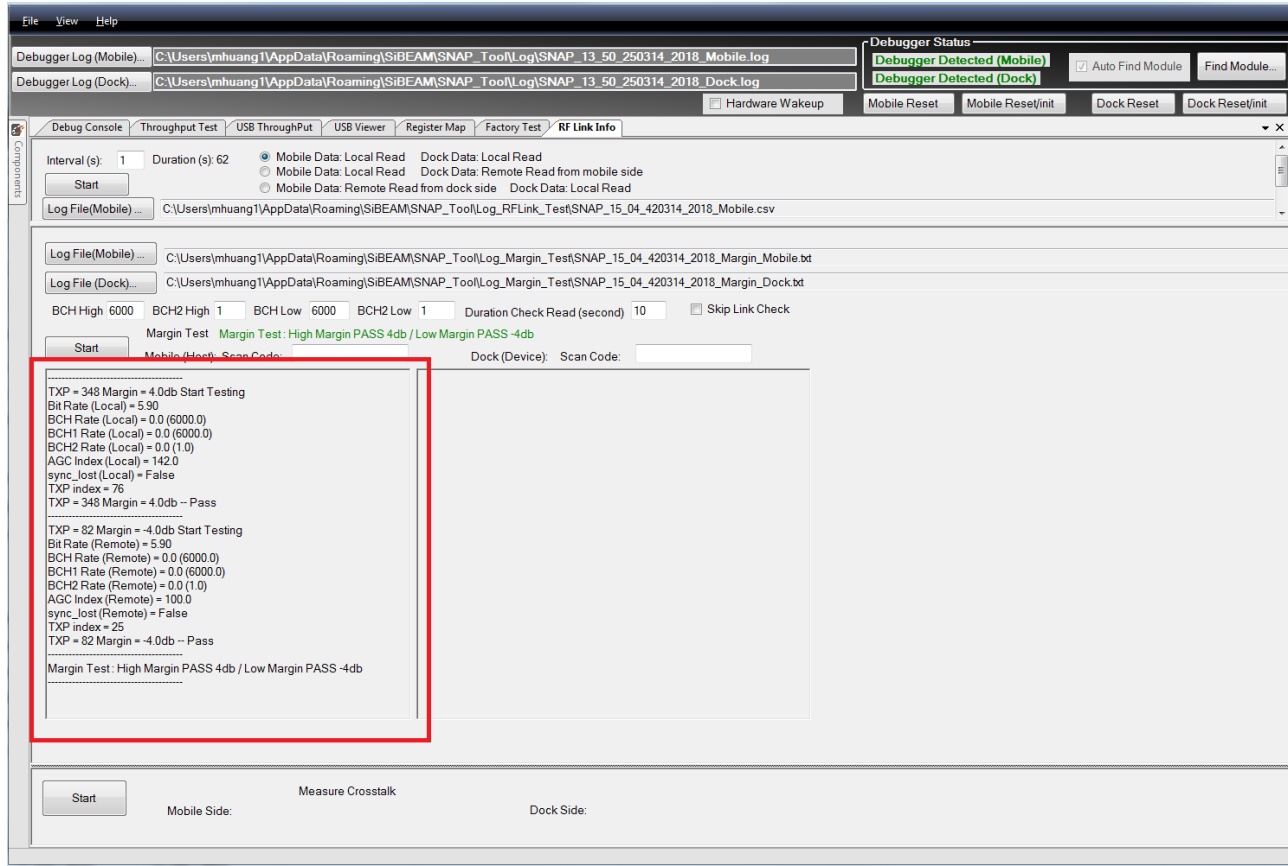

Figure 3.18. Link Margin Test
- Click the **Start** button to start the test, as shown in Figure 3.18.